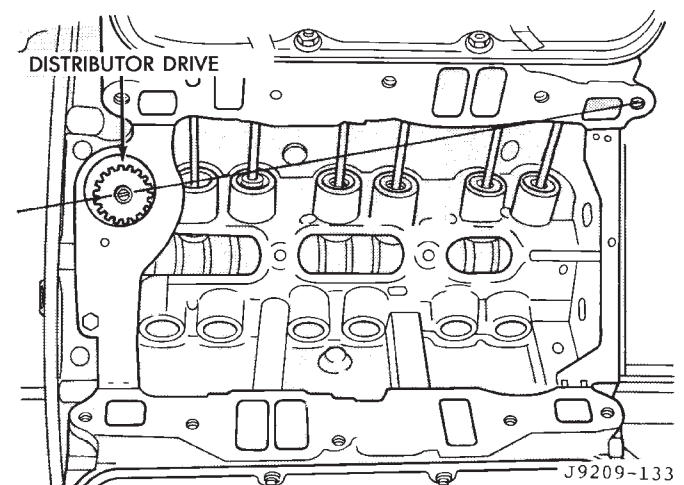

Fig. 17 Position of Installed Distributor Drive Gear
(1) Rotate crankshaft until No.1 cylinder is at top dead center on the firing stroke.
(2) When in this position, the timing mark on vibration damper should be under "0" on the timing indicator.
(3) Coat shaft and drive gear with engine oil. Install the shaft so that after the gear spirals into place, it will index with the oil pump shaft. The slot in top of drive gear should be aligned towards left front intake manifold attaching bolt hole (Fig. 17).